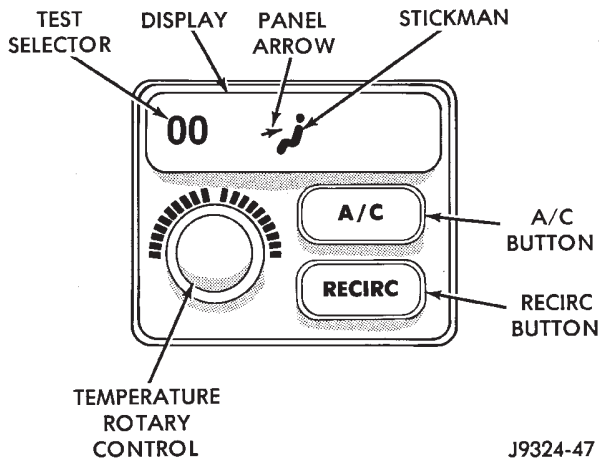

Fig. 15 Test Selector Values Between 100 and 199
(4) If the stick man panel arrow (middle) is showing, the displayed Test Selector value will be a range of numbers between 100 and 199 (Fig. 15).